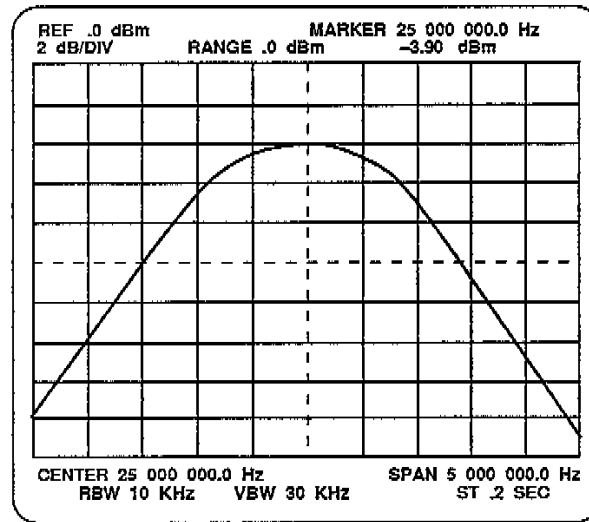

Figure 3-19. Proper 3 MHz filter shape and centering adjustment (C38, C39, and C40).
- Adjust as indicated in the instruction area of the screen. See Figure 3-19.